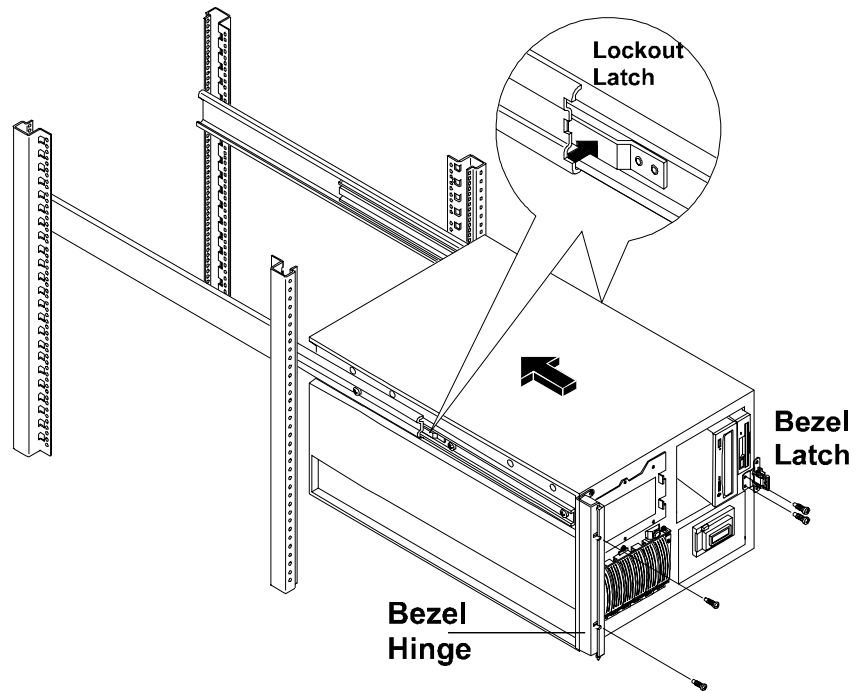

Figure 8-12. Slide Lockout Releases, Bezel Latch, and Bezel Hinge
1. Attach the bezel hinge to the NetServer with three screws through the right edge of the bezel hinge and into the left front of the NetServer (see Figure 8-12).
3. Depress the slide lockout latches, and push the NetServer completely into the rack (see Figure 8-12).